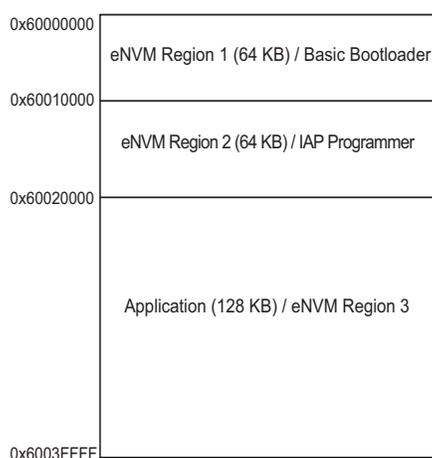

Figure 3 • Example of Partitioning the eNVM for Mutually Exclusive Executable Images
- Application/eNVM Region 3: The IAP Programmer running from eSRAM programs this region using the *.dat file provided by you. This program is launched by either the IAP Programmer after programming the *.dat file into this region successfully, or by the bootloader if this has been programmed earlier based on your selection. Figure 3 illustrates the partitioning of the eNVM for mutually exclusive executable images.
The memory regions shown in Figure 3 are used in this application note as an example memory map. There is no specific rule for the memory maps for the applications. The memory maps explained in this application note are just for reference. As per the applications memory, these requirements can be changed and the corresponding linker scripts can be generated.
As explained in the Figure 3 on page 4, we will be having two images in eNVM apart from the bootloader from which you can provide the input about the application that has to be executed by the bootloader. The Bootloader is also provided with the timeout feature in which if you do not select any input for booting within the timeout period, the bootloader boots the default sample application image from Region 3. In the design files provided for this application note, the boot time parameter is provided in the `boot_config.h` file. Timeout can vary by changing this parameter as per the applications requirements.